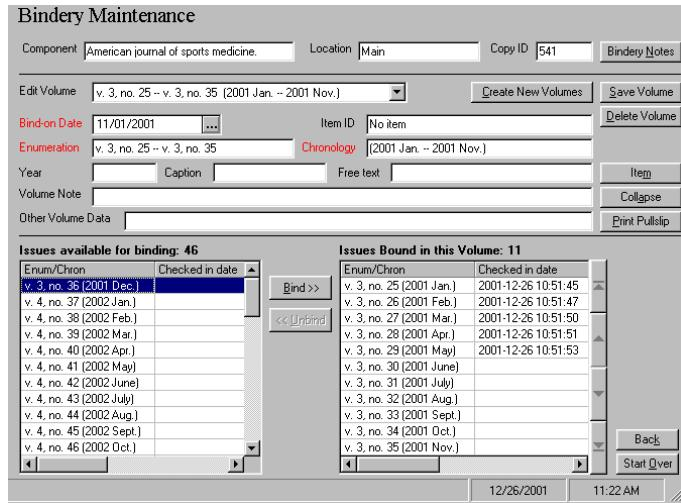

Figure 14-22. Selecting an issue to add to a volume
3. To add issues to a volume, select the issue(s) you want to add from the **Issues Available for Binding** list box (see Figure 14-22).